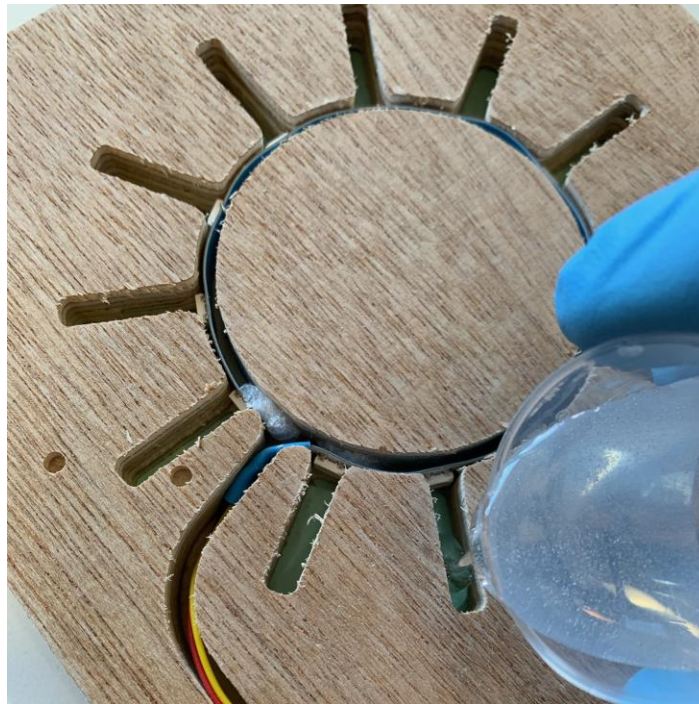

Figure 4. Pour resin into slots
- 3) With gloved hands, in a well-ventilated area, pour equal amounts of resin part A and B into the mixing cup. Carefully stir the resin using the provided stirring stick for at least 5 minutes. Pour the mixed resin into each LED slot as shown in Figure 4. Be careful not to spill resin onto the back of the CLOQ or your workspace. Let the resin cure undisturbed for at least 24 hours. After 24 hours you may remove the masking tape and inspect the CLOQ face. Using your fingernail, carefully scrape off any resin that may have leaked onto the CLOQ face.